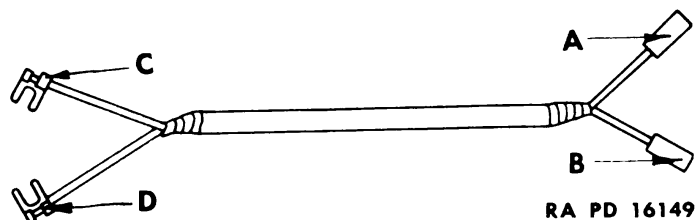

Figure 103—Junction Block to Stop Switch Wiring Harness
g. **Junction Block to Stop Switch Harness (Fig. 103).** This harness extends from junction block over top of wheelhouse and along left-hand frame side rail to stop lamp switch.